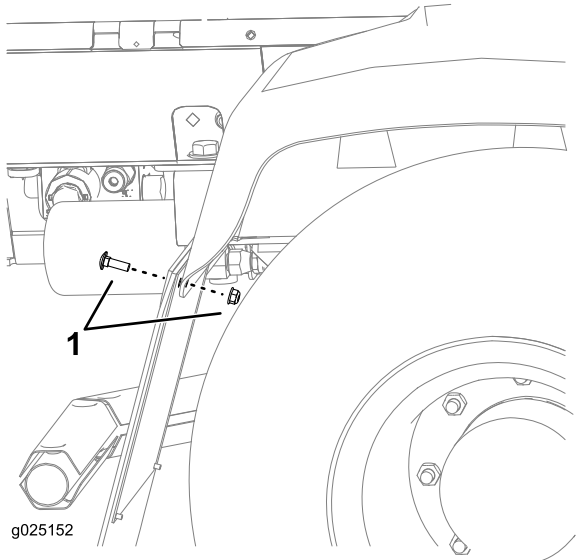

Figure 2
1. Remove the existing hardware on the right tire guard (Figure 2).